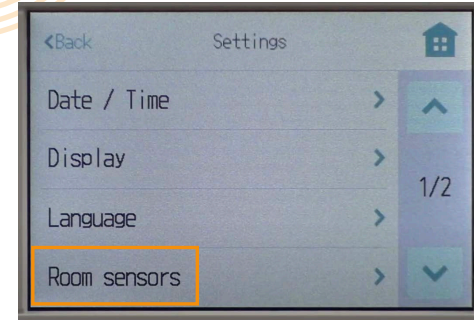

figure 5
- Select 'Room Sensors' (figure 5).